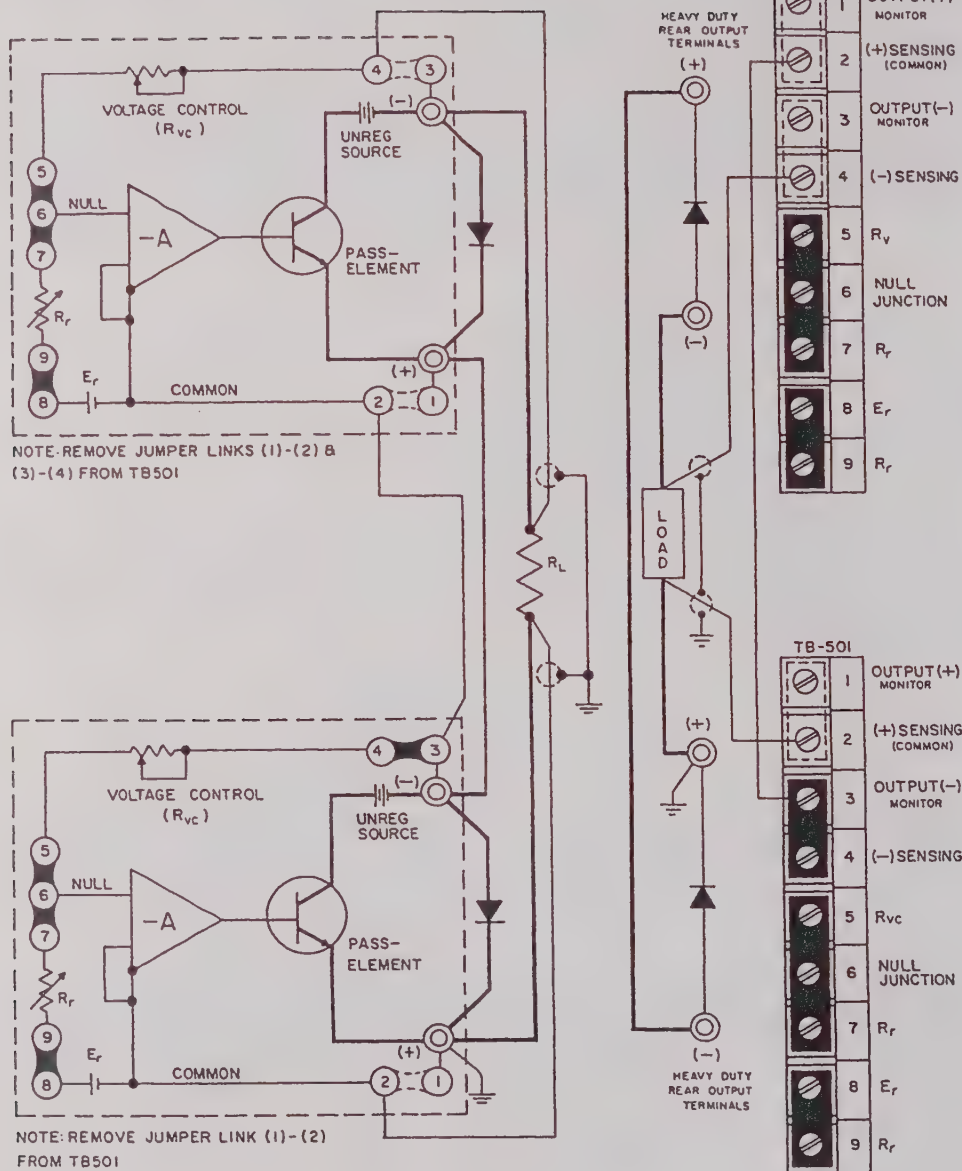

FIG. 3-10 AUTOMATIC SERIES CONNECTION OF KEPKO POWER SUPPLIES
3-35 GENERAL. Kepco Power Supplies can be series-connected for increased voltage output, provided the specified limits on voltage to chassis are not exceeded. When series-connected, the supplies should be protected by means of a semiconductor diode across the output terminals of each power supply, as shown in FIG. 3-10. The peak inverse rating of these diodes must be at least as large as the output voltage of the supply to which they are connected. The continuous current rating of the diodes should be at least as great as the largest short-circuit current of the interconnected supplies.
3-36 Two basic series connection methods are generally used, the "Automatic Series Connection", as illustrated in FIG. 3-10, and the "Master-Slave" connection, shown in FIG. 3-11. The basic difference between these two alternate methods lies in the manner of the output control. While in the "Automatic" connection the outputs of both supplies may be controlled individually, in the "Master-Slave" connection, control is exercised from the "Master" supply alone, while the "Slave" supply follows the master command in a ratio which may be pre-determined by the user. The latter method of series operation is therefore frequently termed "Automatic Tracking".
- Connect load as shown in FIG. 3-10. Keep voltage drop in load wires as low as practical by using heavy gauge wire.